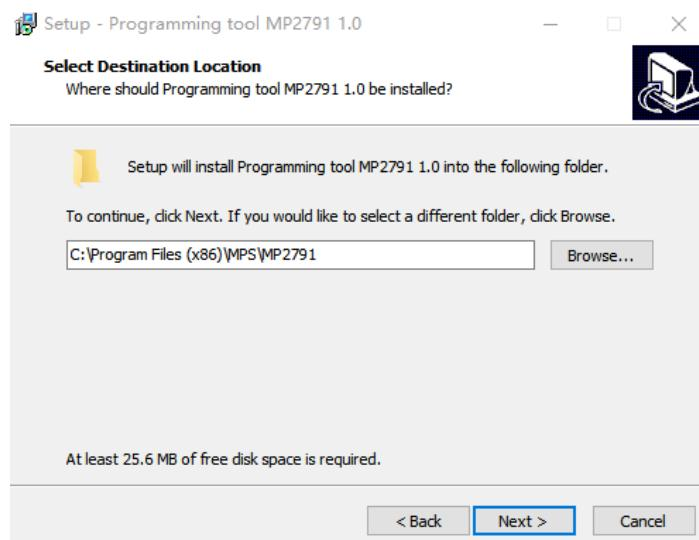

Figure 4: MPS GUI Set-Up Guide
2. Double click the “.exe” file to open the set-up guide (see Figure 4). If a protection window comes up, click “More info,” then click “Run anyway.”